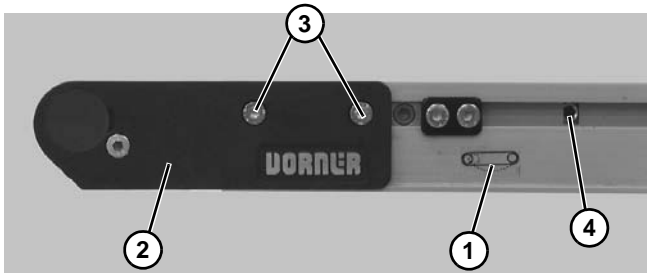

Figure 38
1. On tension end of the conveyor, identified with a  label (**Figure 38, item 1**), adjust head plate assembly (**Figure 38, item 2**): On both sides of conveyor, loosen fastening screws (**Figure 38, item 3**) and rotate pinion gear (**Figure 38, item 4**) to adjust head plate assembly.